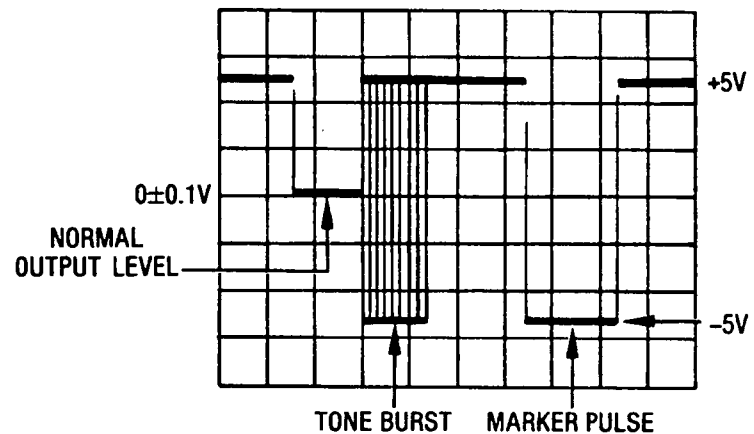

Figure 5-50. Marker Waveform
11. Using the GND on channel 1 of the oscilloscope, set a reference for normal output level (see figure 5-50).